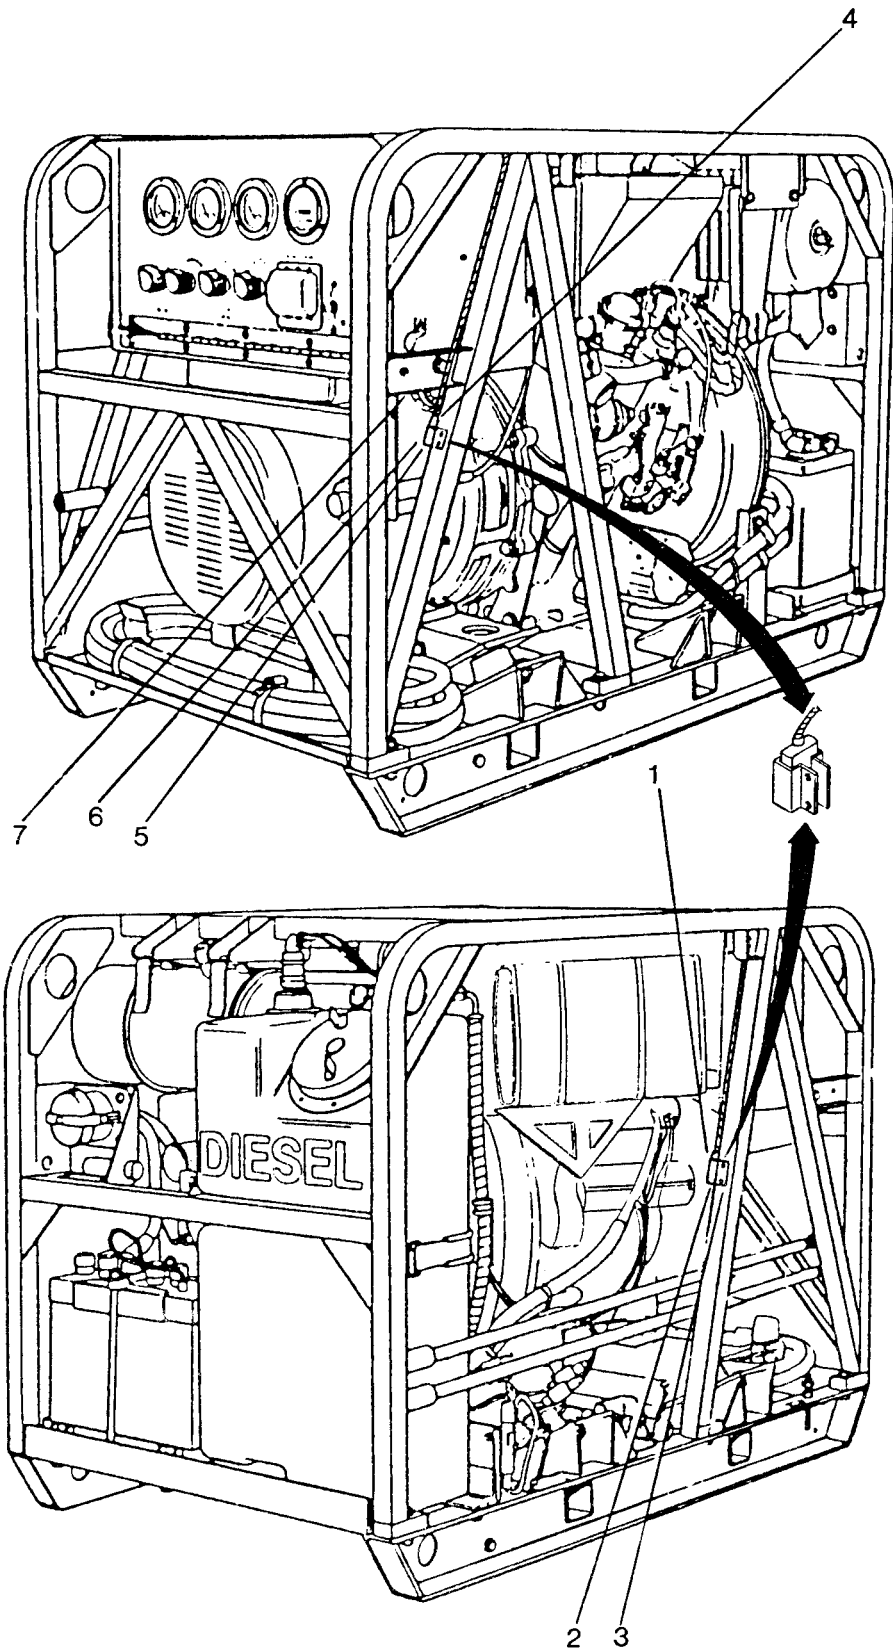

Figure 5-14. Capacitors C3 and C4.
To prevent electrical shock, discharge capacitors C3 and C4, Figure 5-14, before attempting to test wiring harness.
- (5) Remove ties and clamps securing wiring harness.
- (6) Carefully remove harness from generator control panel bottom (7, Figure 5-14).
- (1) Capacitor C3. (See Figure 5-14.)
(2) Capacitor C4. (See Figure 5-14.)